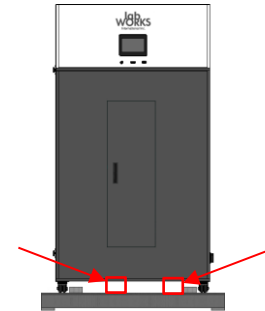

Figure 2-3 Position the Forks
2. Position the forks of the forklift truck as shown in Figure 2-3.